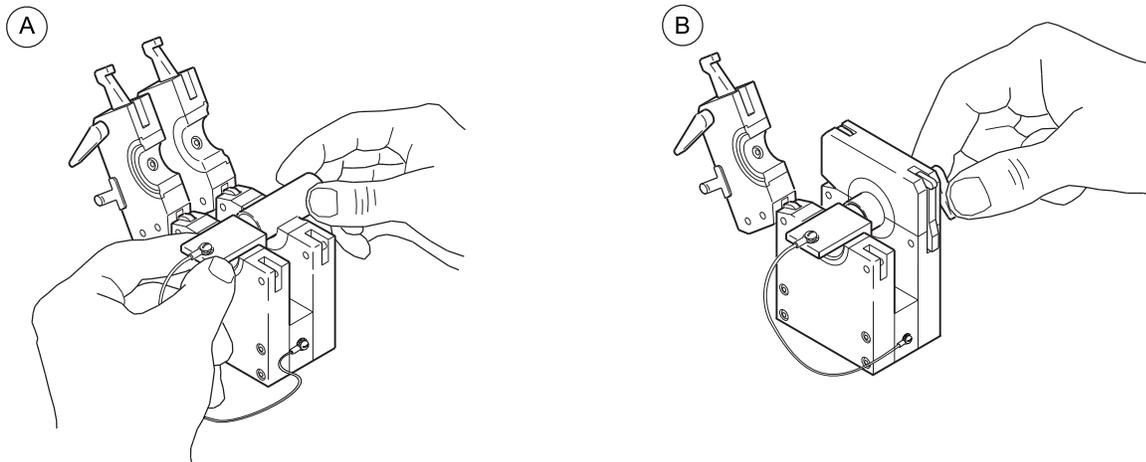

Figure 14 Placing First Work Piece in the Fixture Block
2. Butt one work piece against the centering gage. See Figure 14(A).
3. Lock down the top side plate. See Figure 14(B).